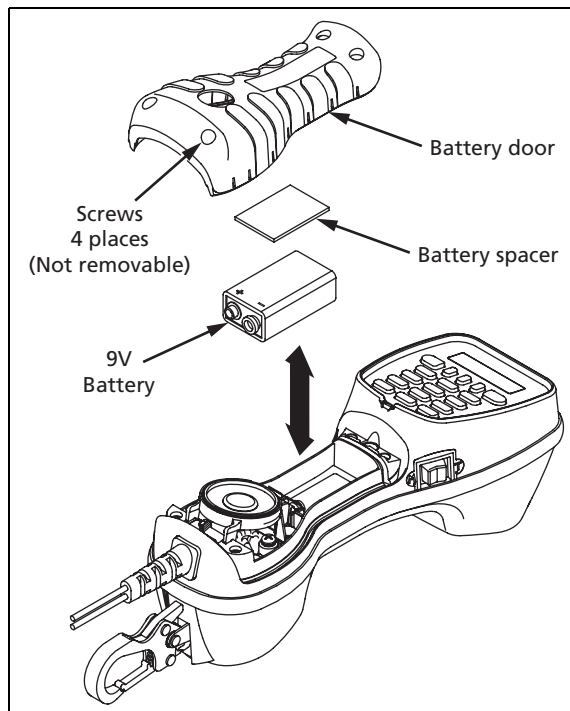

Figure 4. Battery Replacement
See Figure 4.
- 1 Use a Phillips screwdriver to loosen only the four screws attaching the battery door cover to the back of the test set (Figure 4).
- 2 Remove the battery door cover (Figure 4) and battery from the test set.
- 5 Place the battery door cover on the test set and fasten the four screws (Figure 4). Tighten screws to a maximum torque of 0.904 N-m or 8 in-lb.